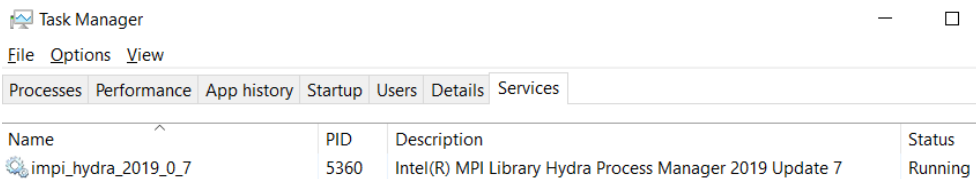
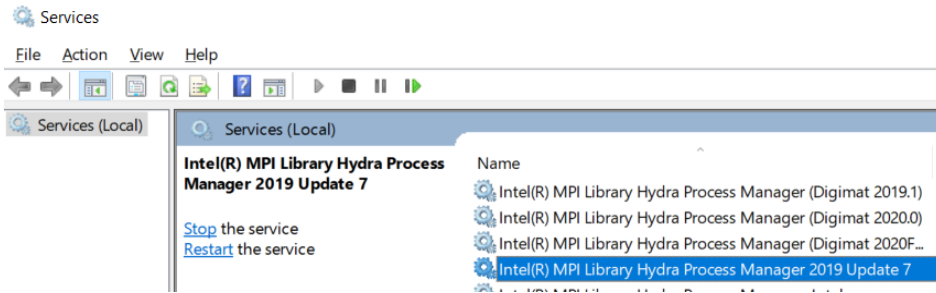
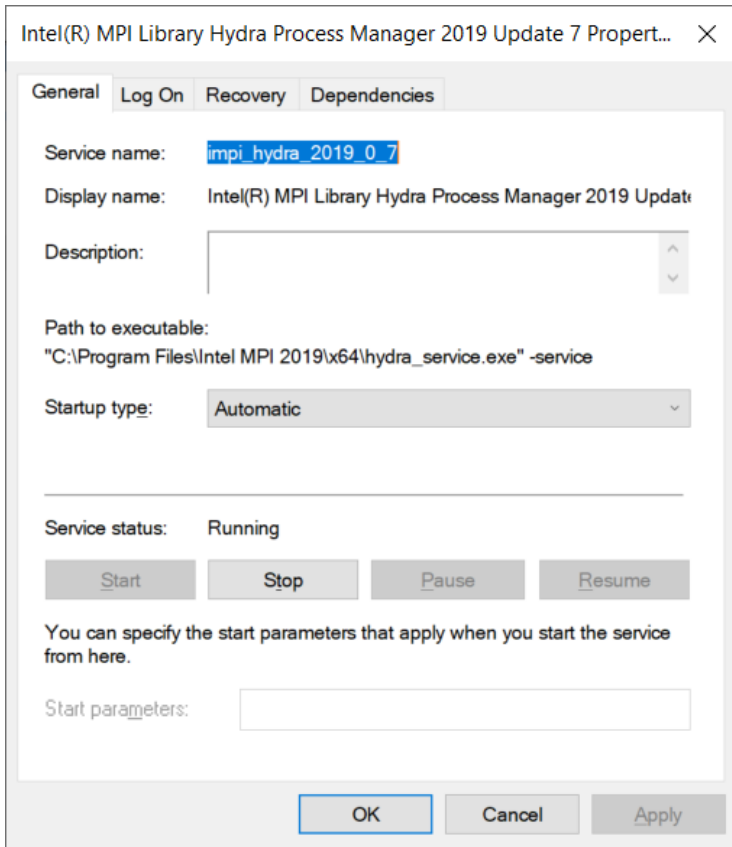

Figure 2-32 Intel-MPI 2019 hydra service in task manager.
Figure 2-33 Intel-MPI hydra service.
Figure 2-34 Intel-MPI hydra service installation directory.
When installing Digimat-MS/Moldex3D for fiber orientation estimation, Intel-MPI 2019 hydra service is automatically installed to allow parallel computation for fiber orientation estimation. The executables associated to the service are located in directory "C:\Program Files\Intel MPI 2019. It appears in Windows task manager with the name "impi_hydra" (see Figure 2-32 and Figure 2-33), corresponding to the executable named "hydra_service.exe". Only one instance of this service with "impi_hydra" name can run on a computer.
- Find the directory of Intel-MPI hydra service to be removed. This directory can be found by clicking on properties of the existing service (e.g., C:\Program Files\Intel MPI 2019), see Figure 2-33 and Figure 2-34. The name of the executable associated to the service (hydra_service.exe) can also be found in the properties of the service. Type in the command prompt: